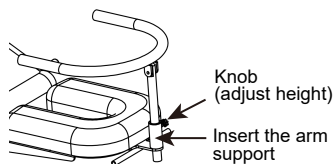

Figure 13
- Insert the arm support into the round pipes at the top of the head section, and rotate and turn the knob tightly (Figure 13).